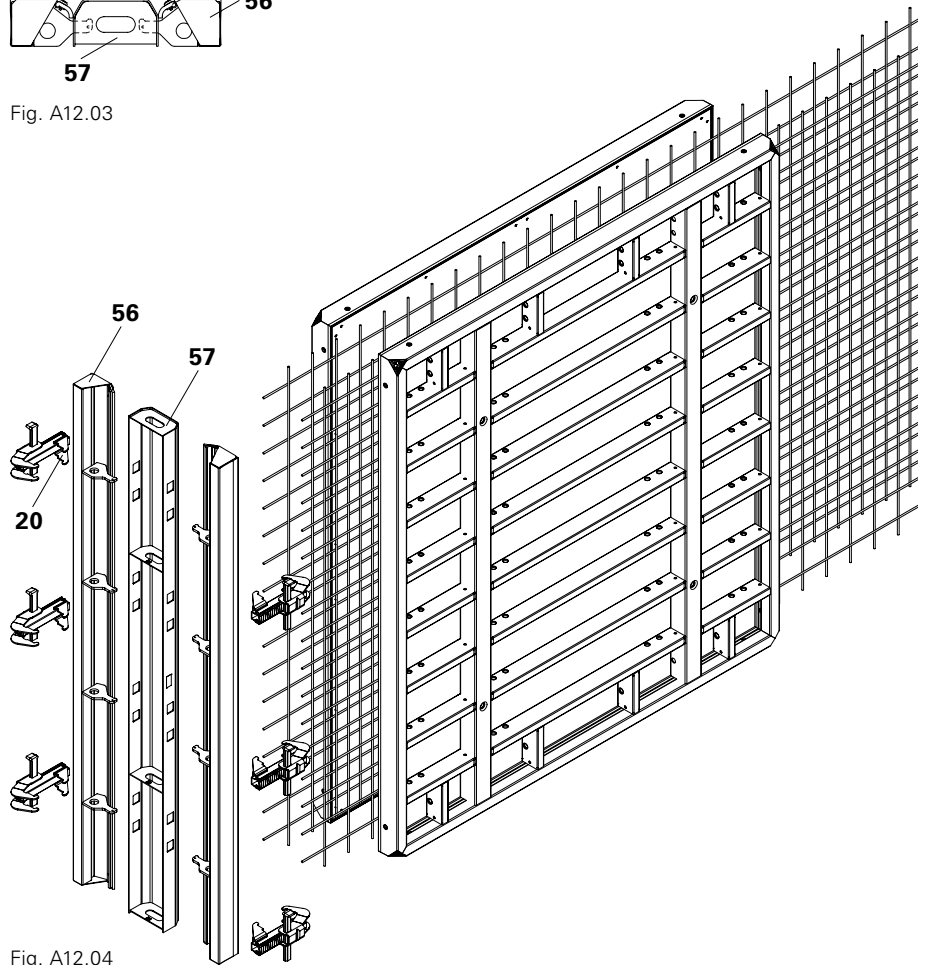

Fig. A12.04
2. Attach Stopend Panel TRIO AT (56) to the primary formwork using the Alignment Coupler BFD (20).
4. Position the Stopend Panel TRIO MT (57).
8. Close formwork, and insert ties to secure. (Fig. A12.04)